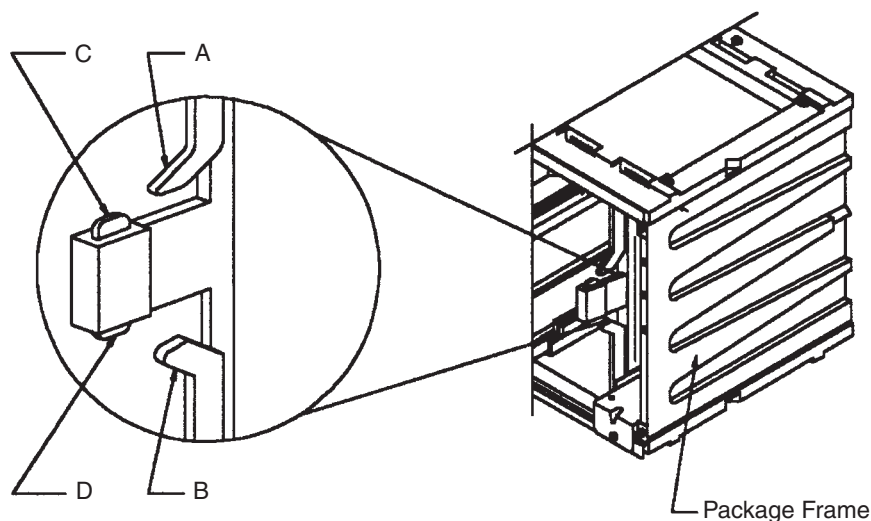

Figure 4-60. Card Clamp Mechanism
- a. Using both hands, release levers A and B simultaneously by moving them upwards and outwards to their fullest extent. Refer to Figure 4-60.
- a. Using both hands, release levers A and B simultaneously by moving them upwards and outwards to their fullest extent. Refer to Figure 4-60 on page 4-87.